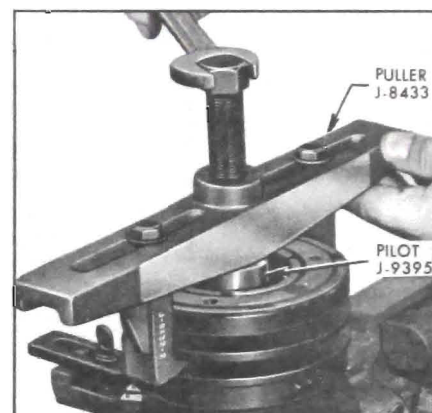

Figure 11-102—Removing Pulley Assembly
3. Place J-9395 puller pilot over compressor shaft and remove pulley assembly, using J-8433 puller. See Figure 11-102.